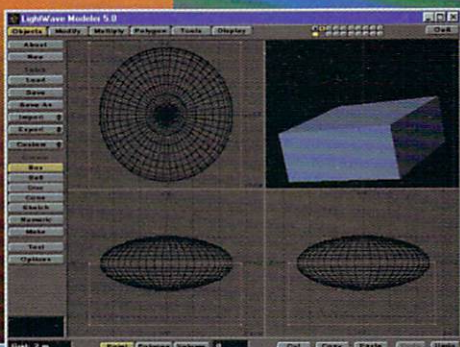

Figure 2
7. In the Objects menu select Box. Move the cursor to the Top view and draw a box around the Rim object. Now move your cursor to the Face view and click once below the object on the right side (see Figure 2).